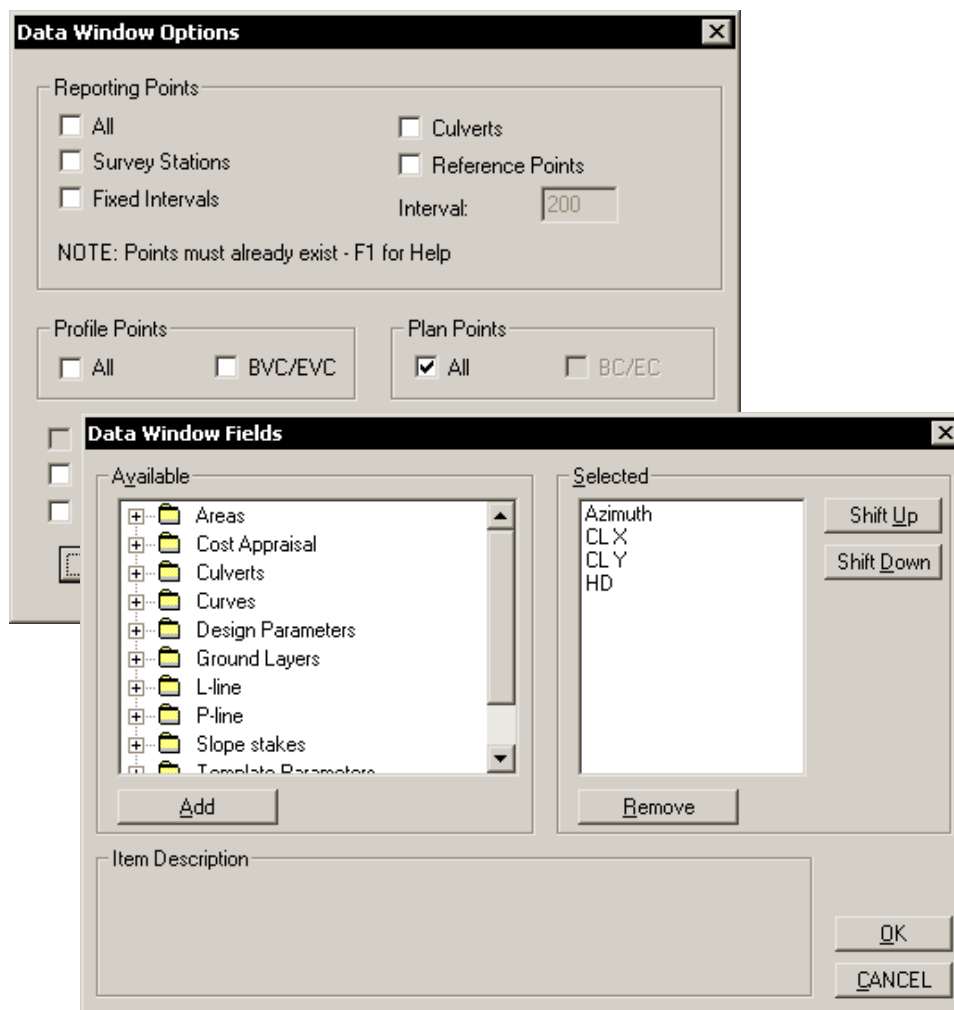

Figure 2.18 Data Window Options after Clicking the Columns Button
10. Right click in the Data window and choose *Data Option*. Select only Plan Points for display (see Figure 2.18 – type the F1 key for help).